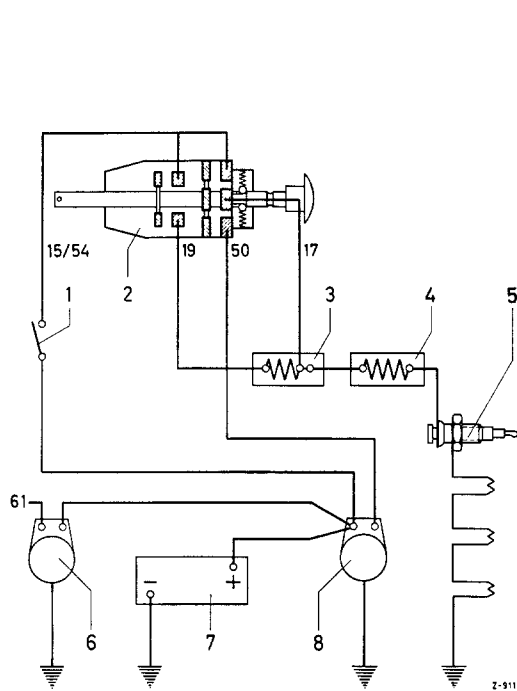

Fig. 15-33/3
Fig. 15-33/3 shows the wiring diagram for the individual components involved in the starting process. In this wiring diagram the push-pull switch is shown in the drive position (F). The whole system can only be operated after the main switch (1) has been closed which is done by turning the key to the position "Fahrt" (drive).